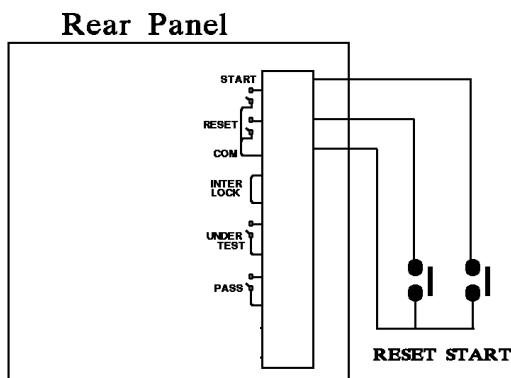
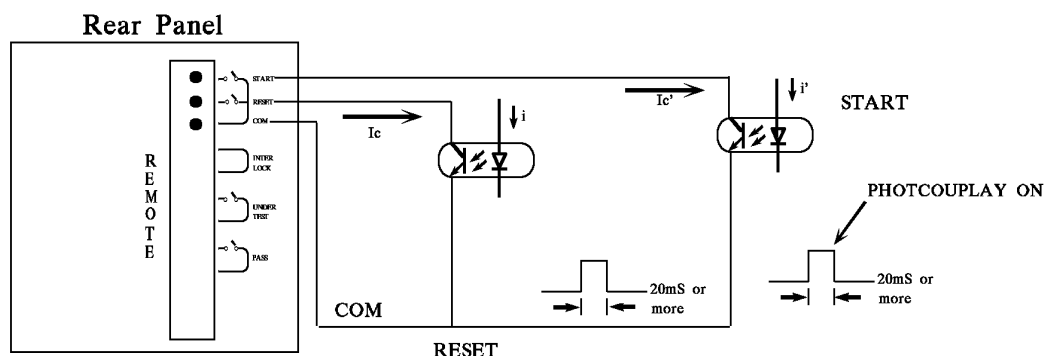

Figure 4-1
Figure 4-3
1. If the user desires to control START single and STOP signals, refer to *Figure 4-1*. This figure describes the methods connecting the REMOTE position on the front panel.
3. Some logical components such as transistors, FET, and couplers. Also can be used to connect as a control circuit as *Figure 4-3*. The connecting signal and circuit are as *Figure 4-3*. Only the circuit includes the following statuses, it can control the main unit.
4. The relay switch control as in *Figure 4-1* and photo-coupler control as in *Figure 4-3* is controlled by component contact. It is effective to avoid error operation systems caused by interference. Although the main unit has a lot of preventions, it is necessary to be careful that interferences result from setting the measurement system.